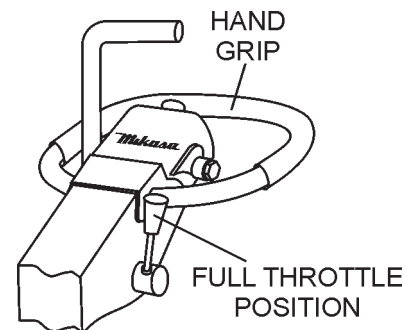

Figure 18. Throttle Lever (FAST)
- Grasp the compactor's hand grip (Figure 18), and move the engine throttle lever quickly to the **fast** position.